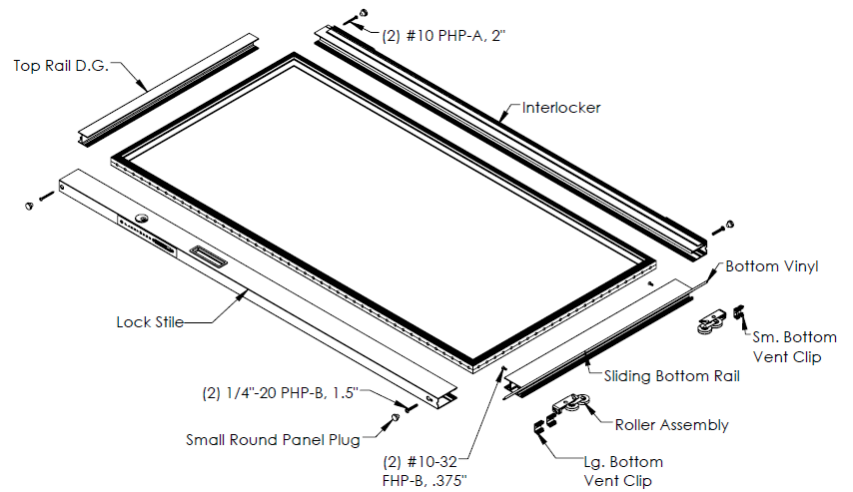

Figure 3:
4. Confirm Bottom Vinyl Sill Wipe is installed into the top groove of the bottom rail (See Figure 3). Leave at 3" long on both sides to install Bottom Vent Clips.